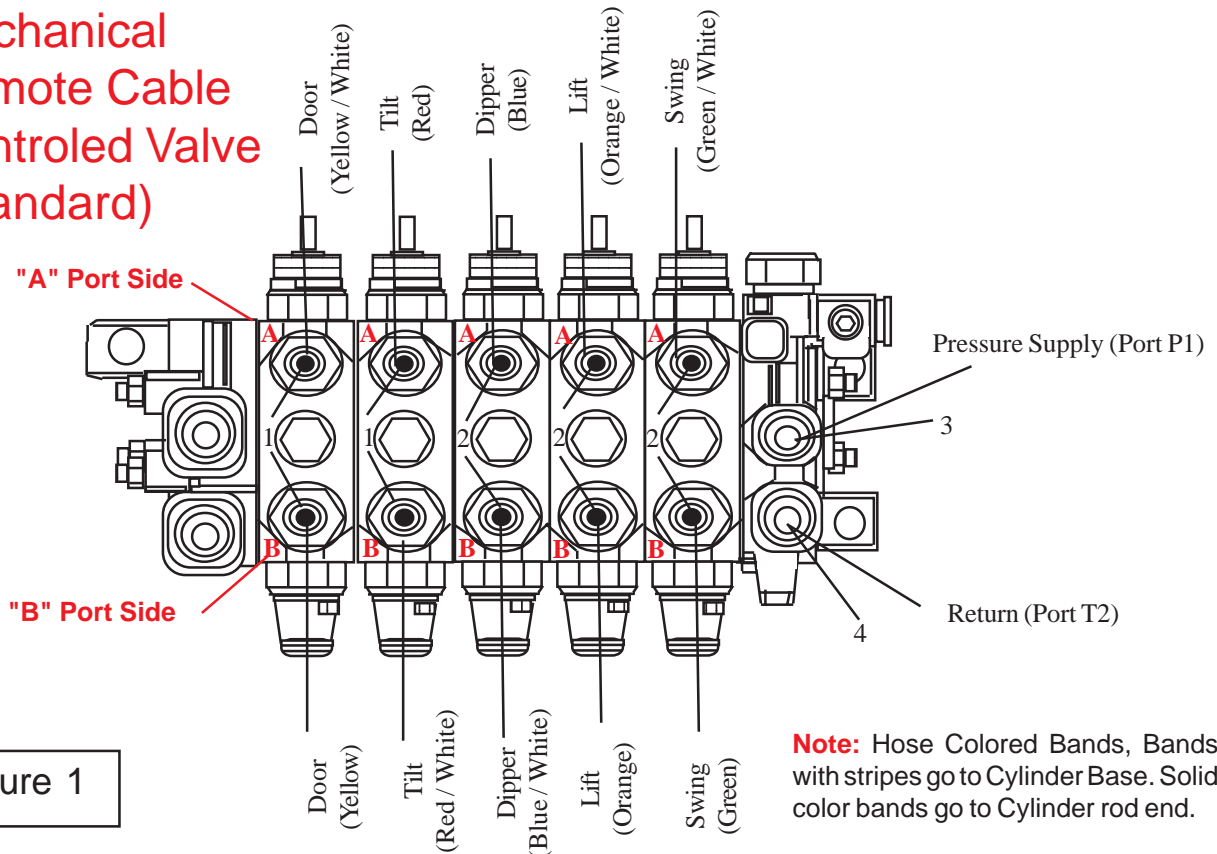

Figure 1
6. Valve Ports: (See Figure 1 & 2)
Mechanical Control Vale (See Figure 1)